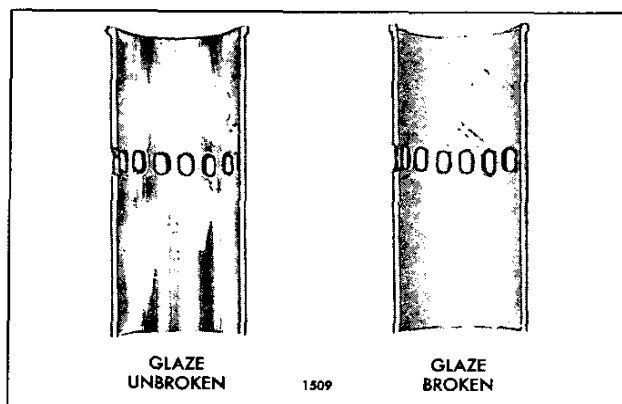

Fig. 3 - Glazed Surface of Cylinder Liner
1. To break the glaze (Fig. 3) due to the rubbing action of the piston rings after long periods of operation. Unless this glaze is removed, the time required to seat new piston rings will be lengthened.